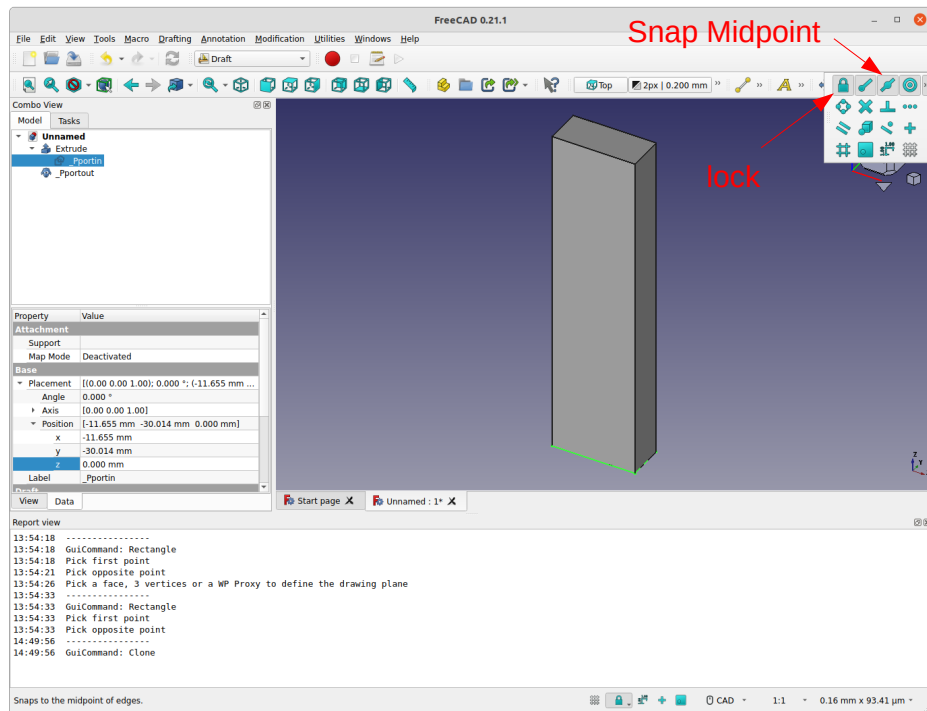

Figure 6: Snapping selection showing snapping to line ends and centers and to face centers.
- Expand the lock icon and select **Snap Midpoint**. The screenshot in Fig. 6 shows the selection of the snapping to the midpoint of lines.